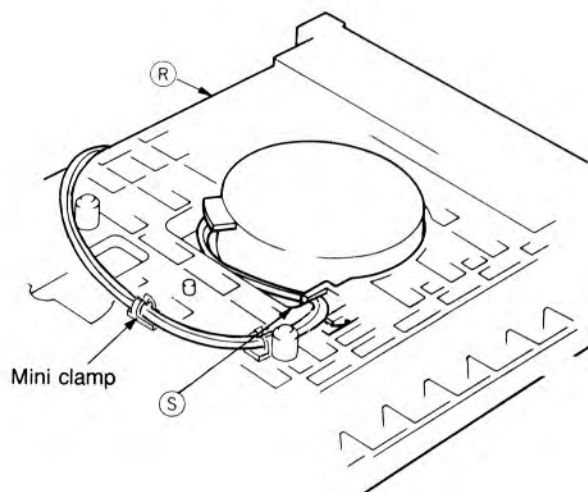

Fig. 2-7
5. Remove the lead wire from the lead wire hook (S) (Fig. 2-7) for the spindle motor at the rear of the mechanism base (R).
4. While the servo-mechanism unit is raised, hook the lead wire from the spindle motor to hook ⑤ (Fig. 2-7) on the rear of the mechanism base ④.